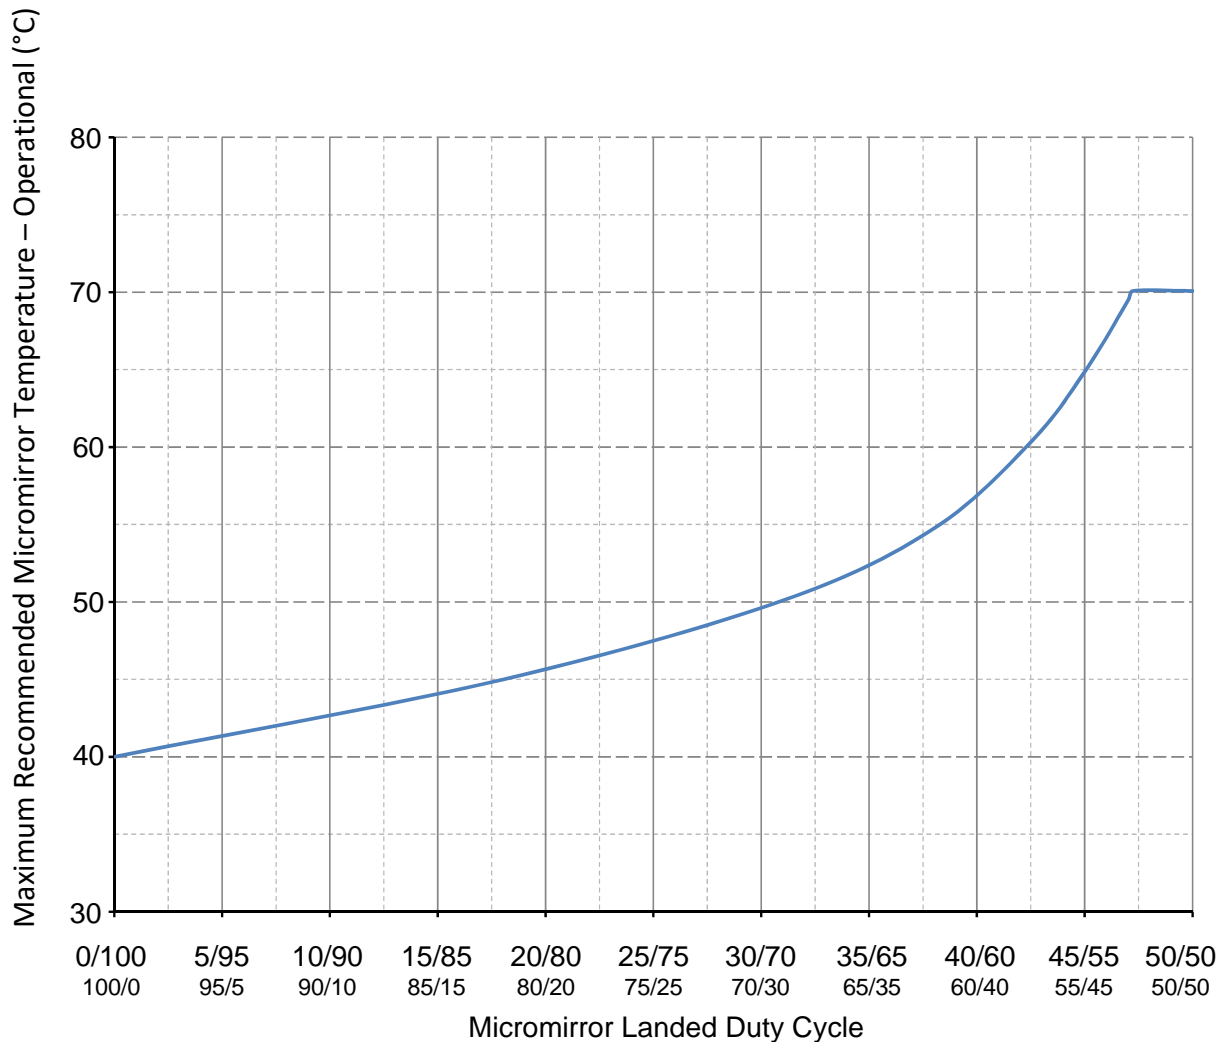

Figure 2. Maximum Recommended Micromirror Temperature - Derating Curve (see Landed Duty Cycle and Operational DMD Temperature)
(11) Long-term is defined as the usable life of the device.
(12) Per Figure 2, derate the maximum operational micromirror temperature based on the micromirror landed duty cycle that the DMD experiences in the end application. See Micromirror Landed-On/Landed-Off Duty Cycle for a definition of micromirror landed duty cycle.
(13) Mirror temperatures beyond those specified as long-term are recommended for short-term conditions only (power-up). Short-term is defined as cumulative time over the usable life of the device and is less than 500 hours.